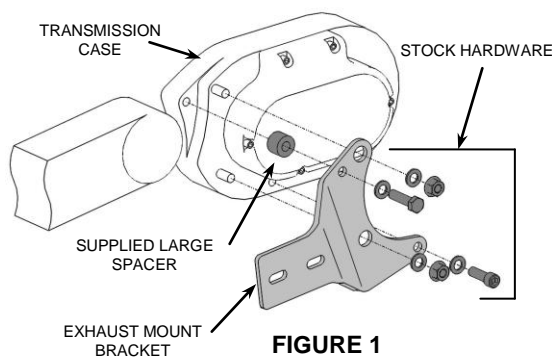
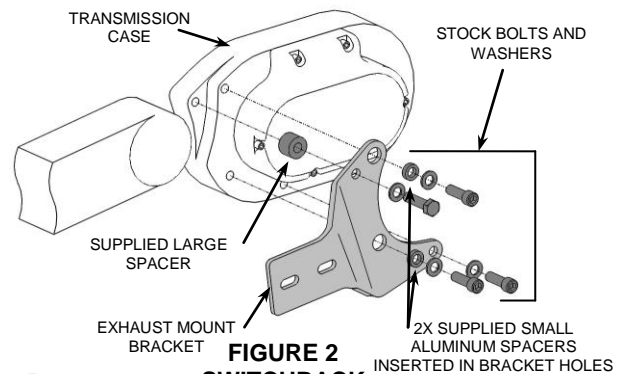

FIGURE 1
FIGURE 2
7. Install the supplied exhaust mount bracket using the stock bolts. See **FIGURE 1**. Tighten the bolts to factory specifications. If applicable, be sure to insert the large spacer between the exhaust mount and the transmission case as shown in **FIGURE 1**. For Switchback models, also insert 2 of the supplied small aluminum spacers into the large holes in the exhaust mount bracket as shown in **FIGURE 2**.